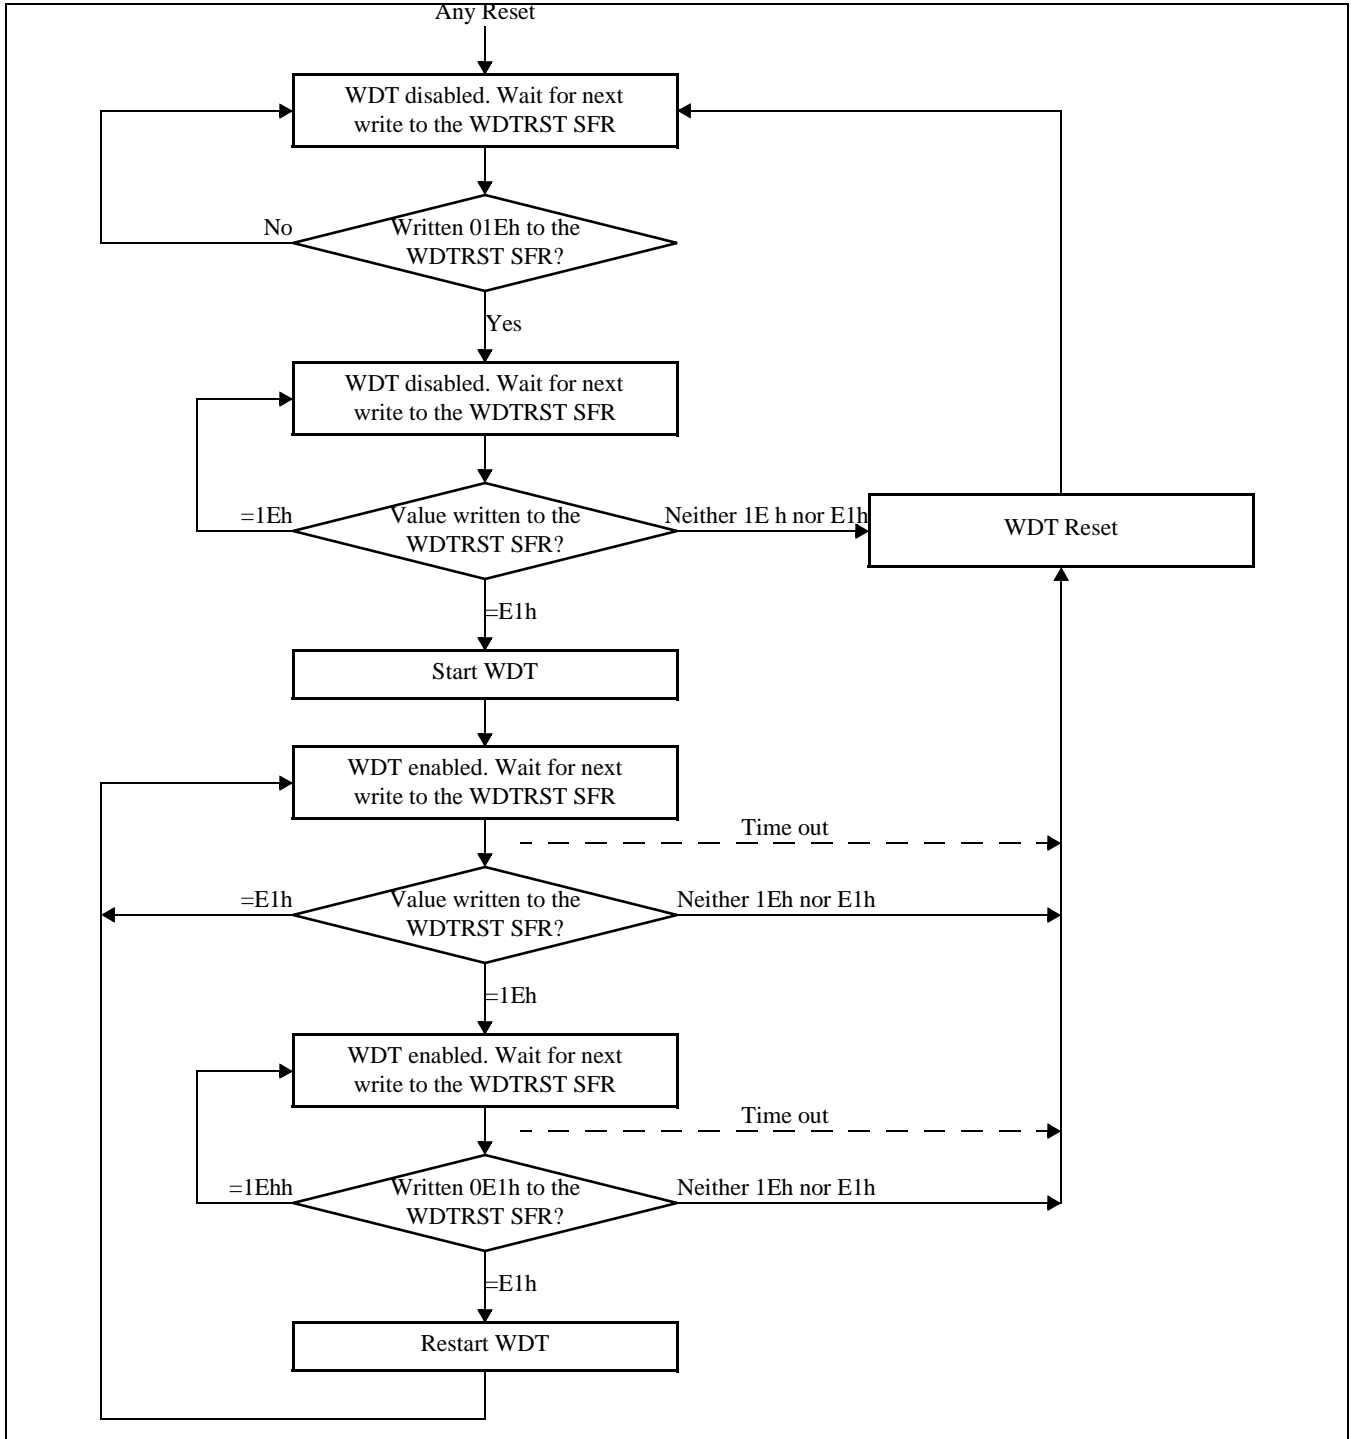

Figure 62: Watchdog Timer State Transitions
- Refer to Figure 62 for details of WDT operations, including effects of illegal feed patterns to the WDTRST SFR.